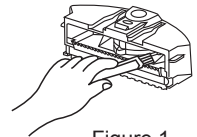

Figure 1
1. First the dust, and then clean with the Dust Brush. (Refer to Figure 1)